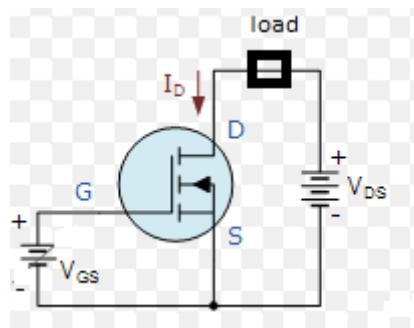

Figure 10: Circuit for plotting I_D vs V_D and transfer characteristics of p-channel JFET (J176)
1. Connect the circuit as shown in figure 10. Keep $V_{DS} = 10$ V constant.
1. Connect the circuit as shown in figure 10. Keep $V_{GS} = 5$ V constant.